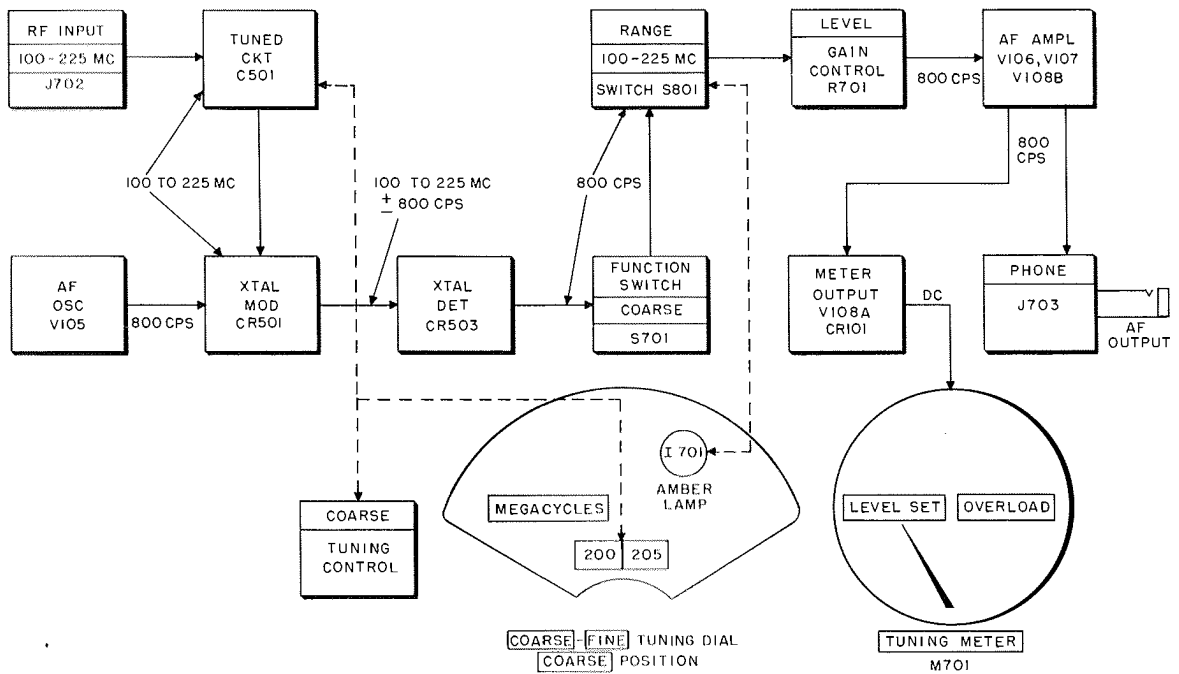
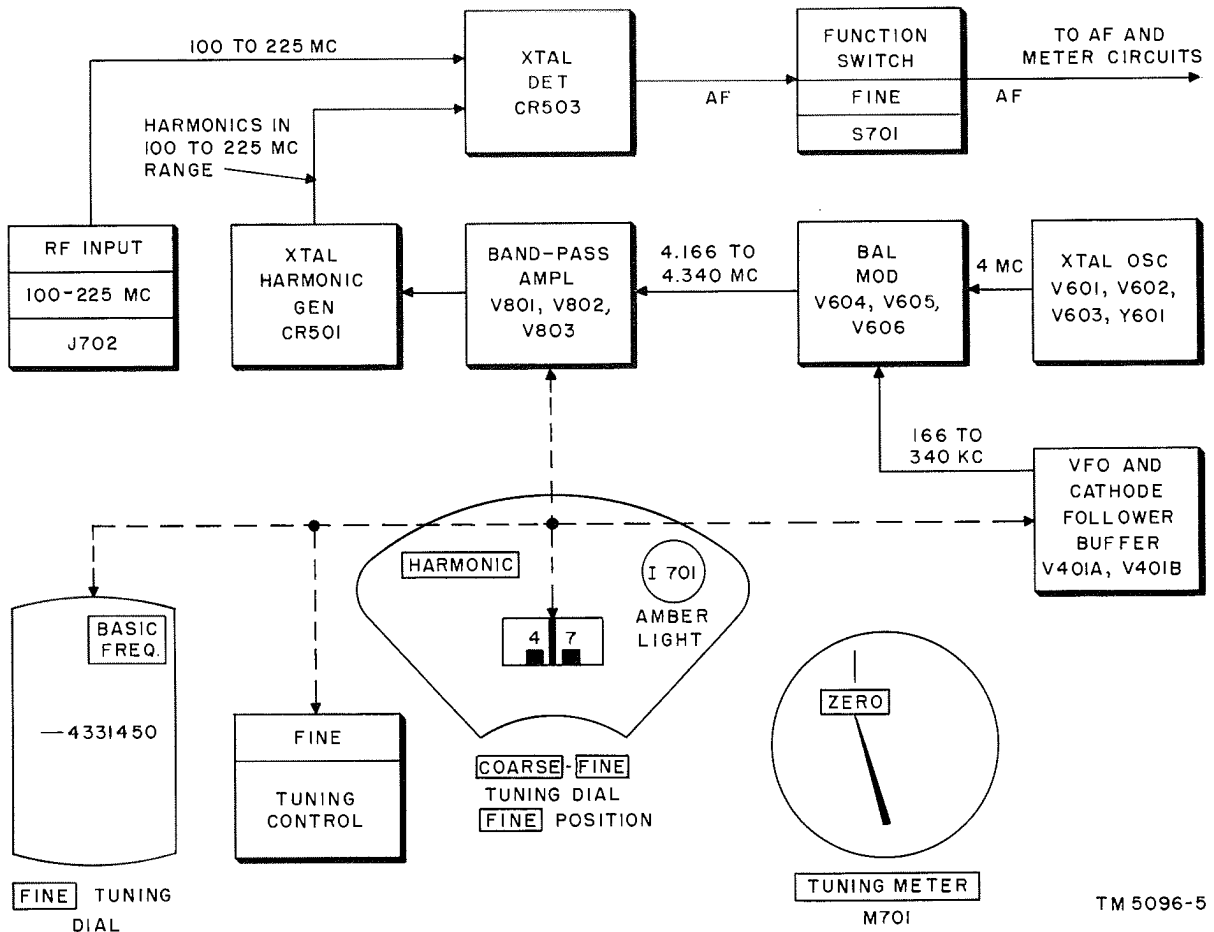

Figure 12. COARSE position, block diagram.
Figure 13. FINE position, block diagram.
- (b) *Exact tuning measurement.* The incoming signal is heterodyned against the correct harmonic of the standard basic frequency. The output of the band-pass amplifier is fed across crystal CR501, which now becomes a harmonic generator, and is mixed with the incoming unknown signal across crystal CR503. When the FINE tuning control (fig. 13) is set properly, the correct harmonic of the frequency generator heterodynes with the incoming signal to produce zero beat. In the operation of tuning the frequency meter, af tones are heard before and after zero beat; these tones are fed to one-half of audio preamplifier tube V201.
- (8) *Preamplifier.* The purpose of preamplifier tube V201 is to increase the voltage level of the af tones coming from the rf tuner assembly. Tube V201 is a twin triode in which one-half (V201A) amplifies the tones resulting from the rf tuner assembly working in band 1 and the other half (V201B) amplifies the tones resulting from the rf tuner working in band 2. The output of the preamplifier is fed to audio amplifier V106.
- (9) *Check system.* The check system provides a means of checking the calibration of the frequency meter. The check system consists of crystal doubler tube V301, amplifier tube V303B, harmonic generator tube V302, and detector tube V303A. The crystal oscillator signal is fed to V301, doubled to 8 mc, and applied to V302. The vfo signal is fed to V303B, amplified, and also applied to V302. Tube V302 generates harmonics of the vfo signal and feeds them, as well as the 8-mc signal, to V303A. Heterodyne action is accomplished in V303A with the difference frequencies (and zero beat) falling in the af range. When the harmonic frequency is exactly 8 mc, there is no difference frequency and, accordingly, no af output. The af output is fed to audio amplifier tube V106.
- (10) *Audio amplifier and meter output assembly.* The purpose of the af section of the assembly is to amplify the tones
- (1) *COARSE position* (fig. 12). When FUNCTION SWITCH S701 is set in the COARSE position, the signal to be measured is applied to the tuned circuit of the rf tuner subassembly through RF
(2) *FINE position* (fig. 13). When the FUNCTION SWITCH is set to the FINE position, the standard basic variable frequency of the frequency meter is generated. This is accomplished as follows: the 4-mc fixed output of the crystal oscillator stage including V601, V602, V603B, and Y601 is fed to balanced-modulator stage V604, V605, and V606. Also fed to the balanced-modulator stage is the variable 166- to 340-kc output of vfo stage V401. The sum frequencies are variable and range from 4.166 to 4.340 mc. This mixed signal is the standard basic frequency of the equipment and is fed to crystal harmonic generator CR501 through band-pass amplifier stage V801, V802, and V803. The unknown rf signal to be measured is fed to crystal detector CR503 through RF INPUT jack J702. The harmonic output of crystal harmonic amplifier is also fed to the crystal detector to be mixed with the incoming signal and detected by the crystal detector. Only the harmonic of the standard basic frequency close to the unknown signal frequency will mix to produce a beat note in the af range. The signal path starting through preamplifier V201A (fig. 12) and the FUNCTION SWITCH is identical with that of the COARSE setting for the meter and the headset as described in (1) above. The vfo is varied by the FINE tuning control; this control is also coupled by mechanical arrangements to the film system (FINE tuning dial), the band-pass filter of the band-pass amplifier, and the COARSE-FINE tuning dial hairline. As the frequency of the vfo is varied and is added to the crystal oscillator frequency, the band-pass tuner, which has a very narrow band-pass characteristic, automatically follows the sum frequency. At the same time, the hairline in the HARMONIC window is slowly moved toward the proper harmonic block. When the sum frequency is such that a harmonic of it is within audible range of the frequency of the signal under measurement, a beat note will be produced in the headphones. When the beat note is reduced to zero,